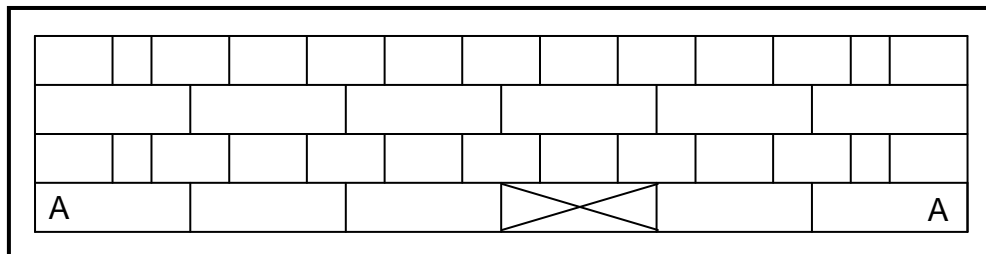

FIGURE 1.11
1.11 FIGURE 1.11 below shows the front elevation of a one-brick wall. Study the drawing and answer the questions that follow.